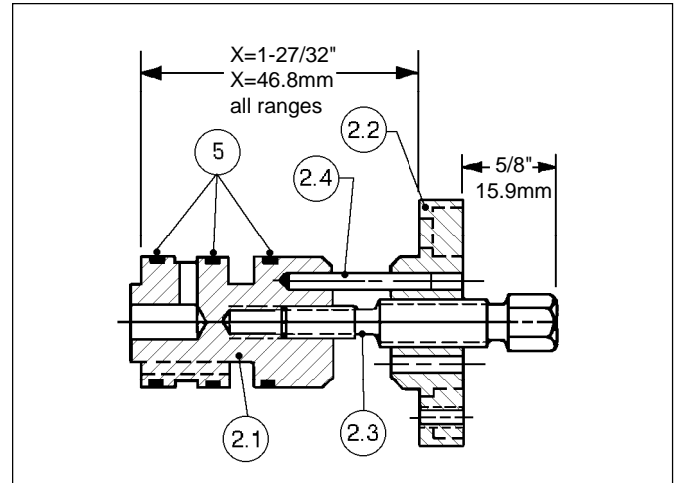

Figure 10
10. Take all the metal parts except the gauge (11) and nameplate (10) and clean in suitable solvent. Clean and air blow all drilled air passages.
11. Install pressure gauge (11) into the pneumatic housing (1) using suitable thread sealant.
12. Using Table 3 above for "coarse settings", reassemble the sensor (2.1) with new O-rings (5), adjusting screw (2.3), and sensor end plate (2.2). When set as close as possible to original, check the two dimensions given in Figure 10 of the sensor sub-assembly (2) as "final settings". When set, rotate the sensor (2.1) the shortest direction to align the holes for sensor pin (2.4). Lightly grease the sensor pin (2.4) and insert through the sensor (2.1) appropriate opening.
A. Improper sensor sub-assembly setting.	A. Remove sensor sub-assembly. Check dimension to those indicated in Figure 10. If dimension is correct, and high setting cannot be reached, decrease dim. "X" by rotating sensor end plate 1/2 revolution CW; reverse for lower setting.